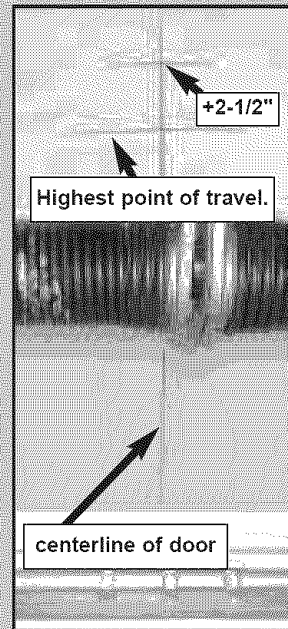

Fig. 2-3
- Mark “highest point of travel” at centerline on wall above door. **Fig. 2-3.**
add **2-1/2 inches** to “highest point of travel” and mark this height on centerline. **Fig. 2-3.**